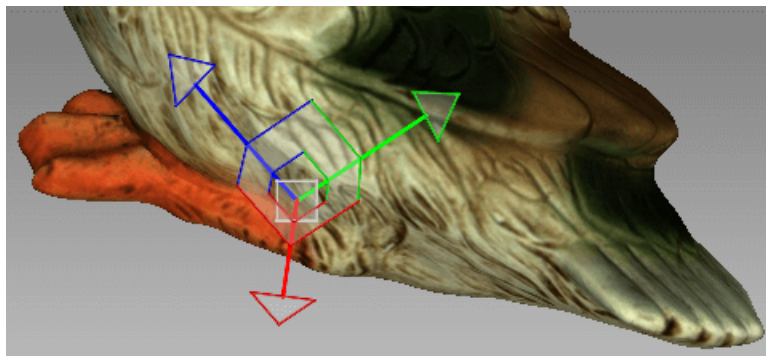

Figure 181: Translation control
- Translate the object in the *3D View* window by dragging the corresponding control (see Figure 181):